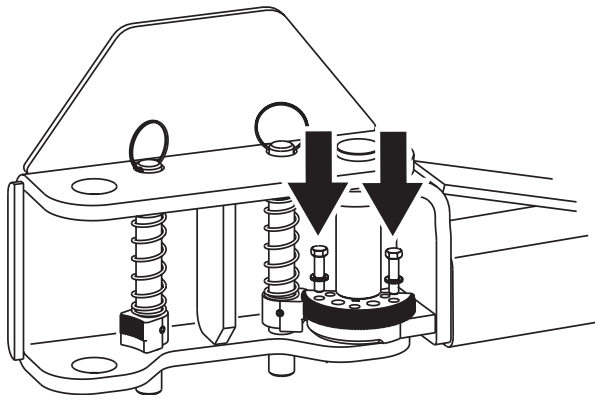
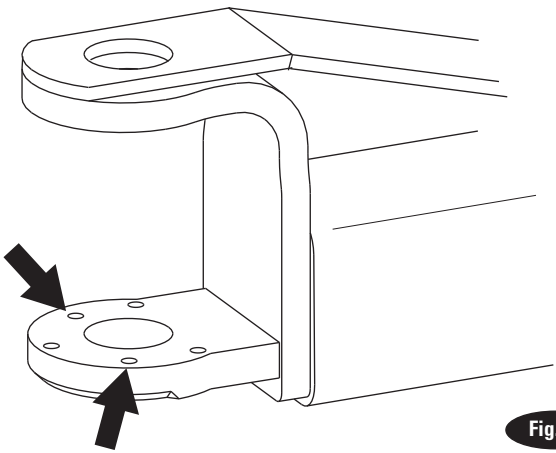

Fig. 17c
Fig. 18
Then, install the (2) 3/8"-16NC x 1-1/2" HHCS (8 total for all 4 arms) and 3/8" Spring Lockwashers into the gear and arm, but do not tighten. Reference Fig. 17c, Fig. 18, and Fig. 19.